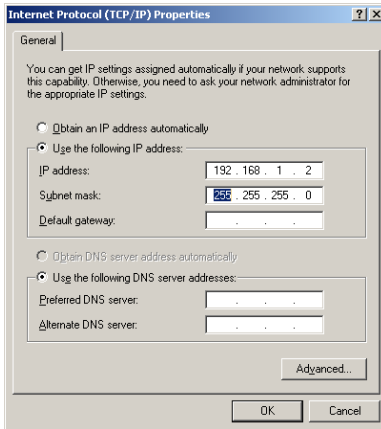

Figure 14: Internet Protocol (TCP/IP) Properties Window
6. Select Use the following IP Address, and fill in the details as shown in Figure 14. You can use any IP address in the range 192.168.1.1 to 192.168.1.255 (excluding 192.168.1.39) that is provided by your IT department.